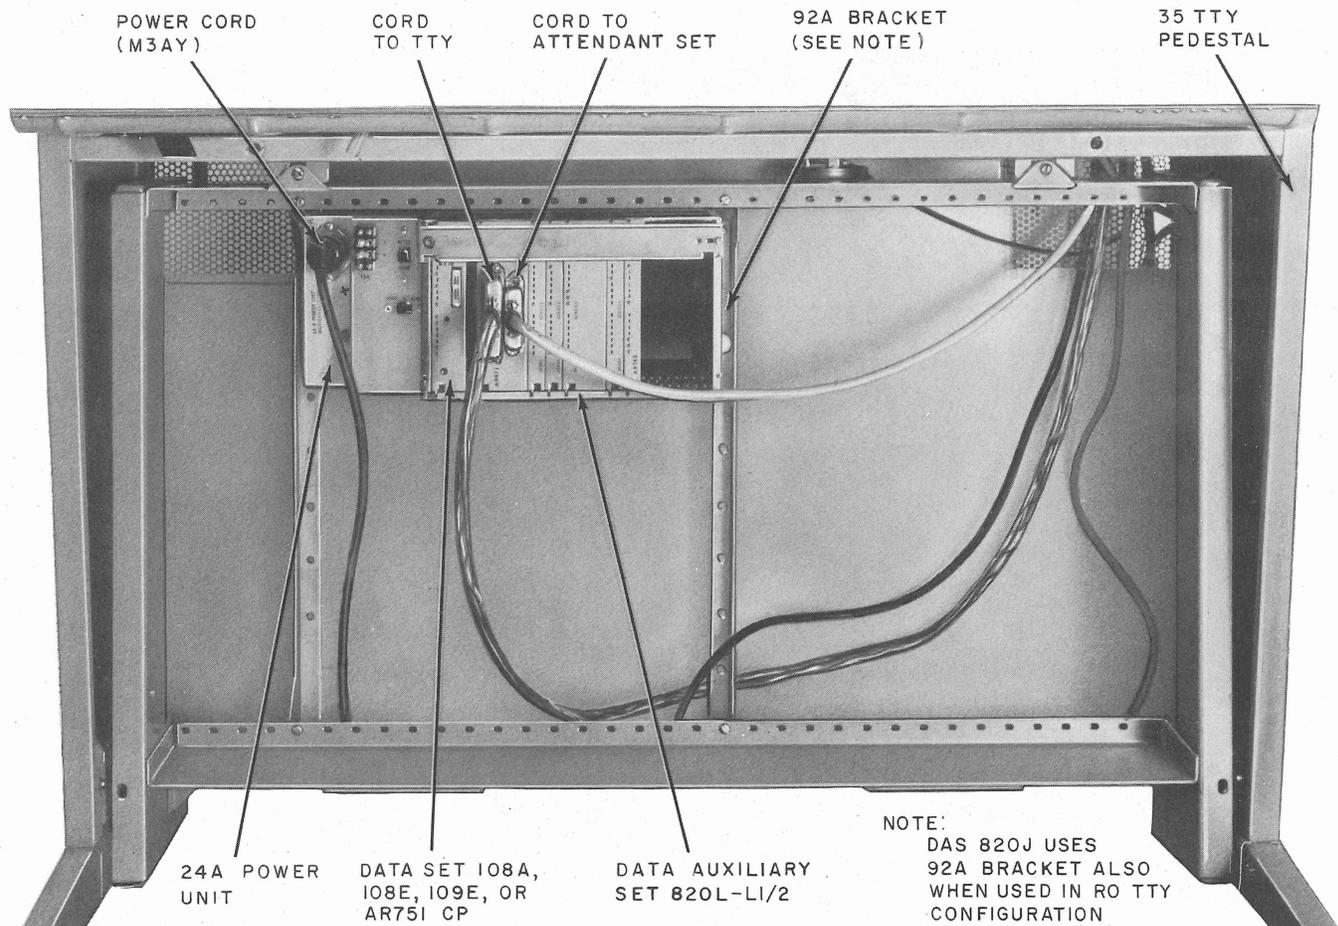

Fig. 2—Model 35 ASR TTY—Location of DAS 820L-L1/2
2.02 Access to DAS 820J- or 820L-type and data set 108-type, 109E, or AR751 CP is obtained by removing the lower compartment front panel. There is no maintenance position provided for the equipment mounted in a 35 TTY. Maintenance of these units is performed in the normal position as shown in Fig. 2.